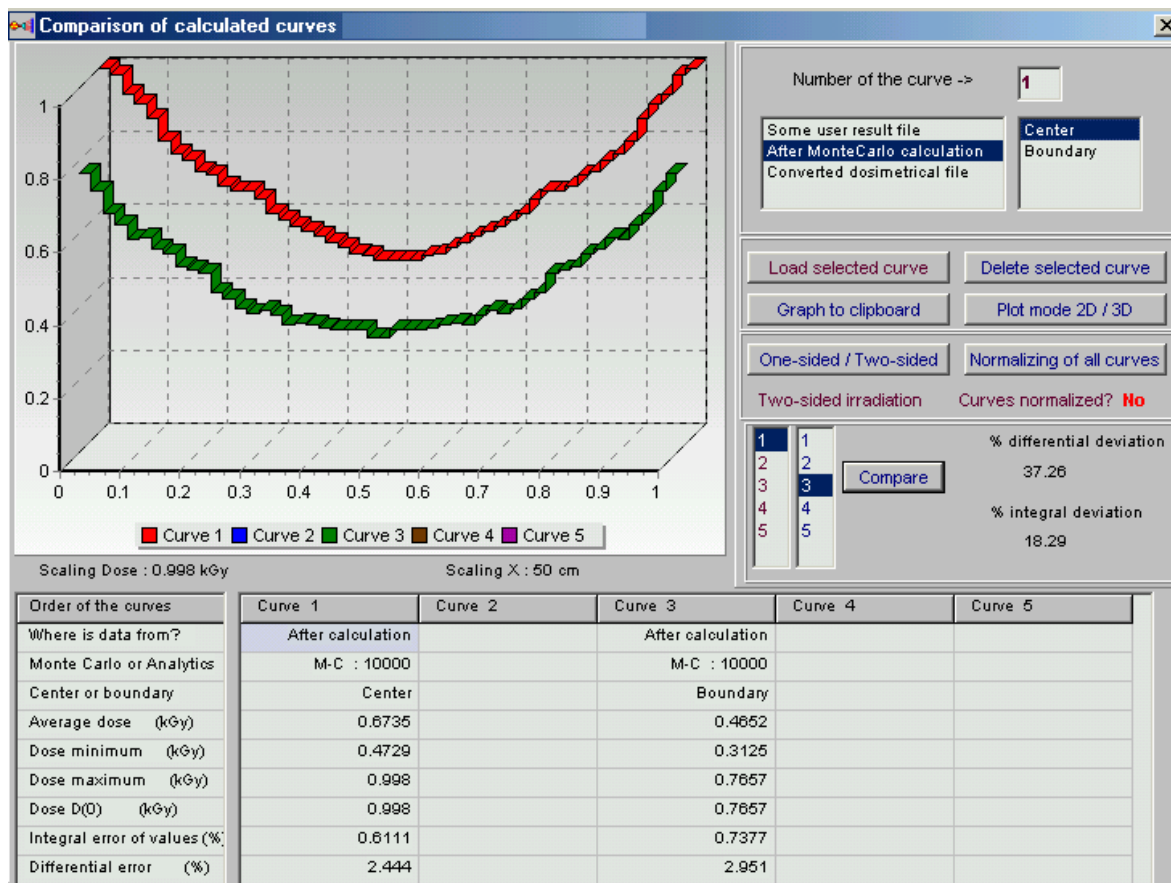

Fig.6.1. The form of "Comparison of calculated curves".
- Click the button “**Comparison**” in the Main form of the **Software ModeXR** (See Fig.1). The form of “**Comparison of calculated curves**” will be opened for analysis of calculated and experimental data of 2D absorbed dose distributions in an irradiated target (See Fig.6.1).
- Click the button “**One-sided/Two-sided**”. The graphs for the **2D dose distribution curves** at **one- or two-sided** irradiation of target will be appeared in the graph area. (See Fig.6.1).
In a such way you can enter for analysis up to 5 curves of 2D dose distributions in the graph area. (See Fig.6.1).
- The function of button **“Compare”** (right down side in the **“Comparison of calculated curves”** frame) allows to make comparison of **2D dose distributions for 2 any curves** to obtain the values of differential and integral deviations in % between compared curves. (see Figs. 6.1. and 6.2).